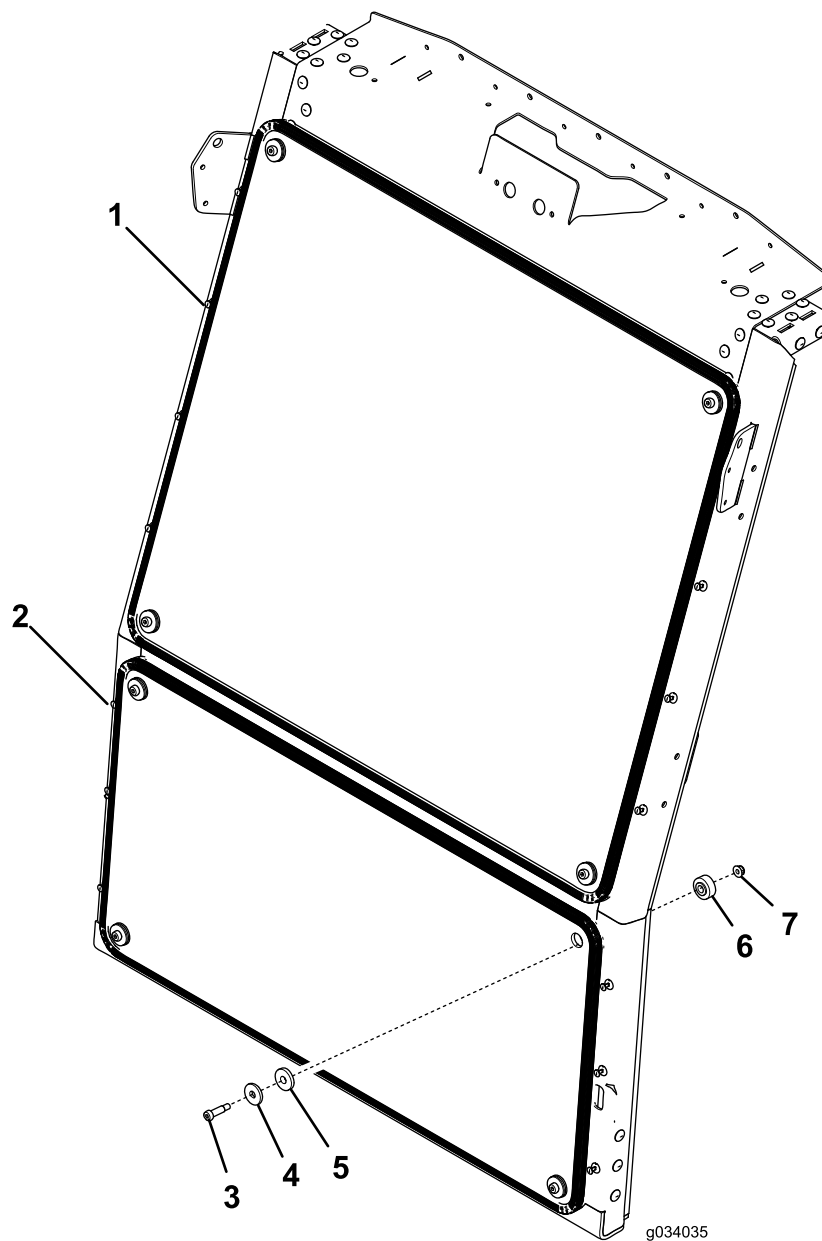

Figure 1
2. Position the lower windshield and align the mounting holes (Figure 1).
3. Secure the lower windshield to the frame with the fasteners as shown in Figure 1.
4. Position the upper windshield and align the mounting holes (Figure 1).
5. Secure the upper windshield to the frame with the fasteners as shown in Figure 1.